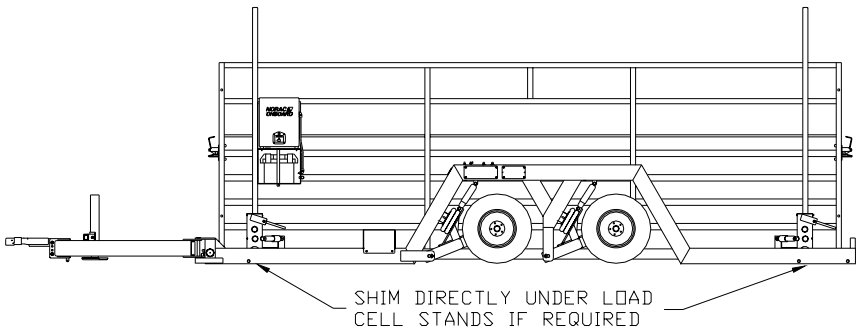

Figure 7 – Shimming Locations
- b) Place shims directly under the base frame, under the load cell stands, to prevent teetering (see **Figure 7**).